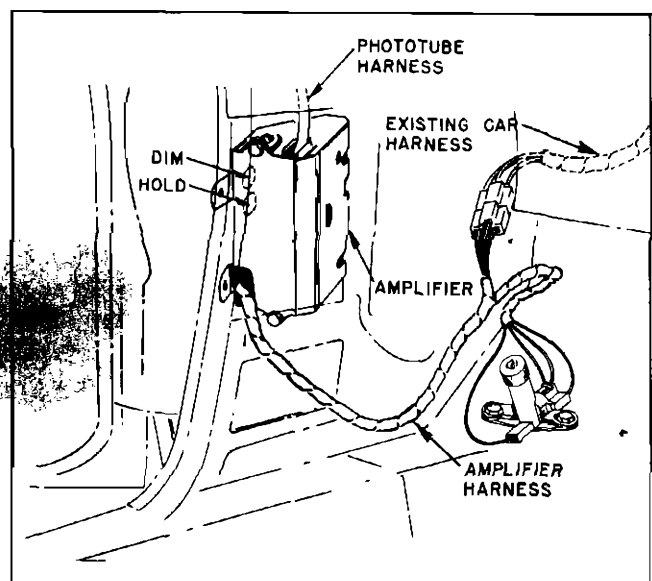

Fig. 12-17 Amplifier Harness
1. Hold and dim sensitivity controls are slotted for screwdriver adjustment and are located at the side of the amplifier unit. When installed on the car they are available through the left front door post after removal of the hinge cover and the dust and moisture protective plug (Fig. 12-17).
2. a. Check wire color coding of three-way connector on foot switch (Fig. 12-17).
b. Ground white wire to amplifier harness (Fig. 12-17).